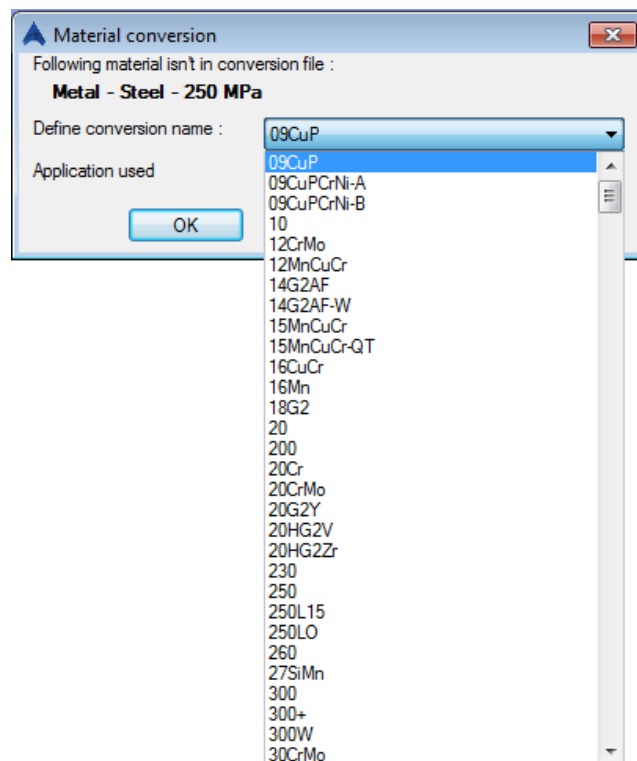

FIGURE 9: THE **MATERIAL CONVERSION** DIALOG BOX
3. In the **Open** dialog box, browse and select the SMLX file that was saved from Autodesk Revit. If the mapping of structure members or material is required, a dialog box will be displayed, as shown in Figure 9.